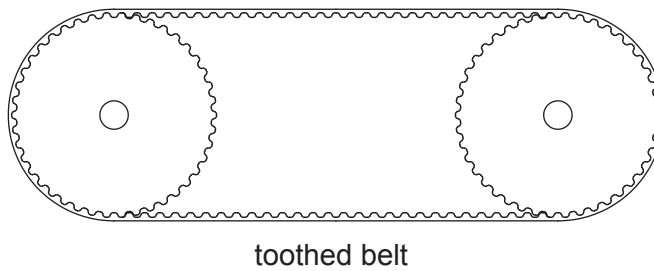

Fig. 10.3
- (iv) Fig. 10.3 shows a toothed belt drive.